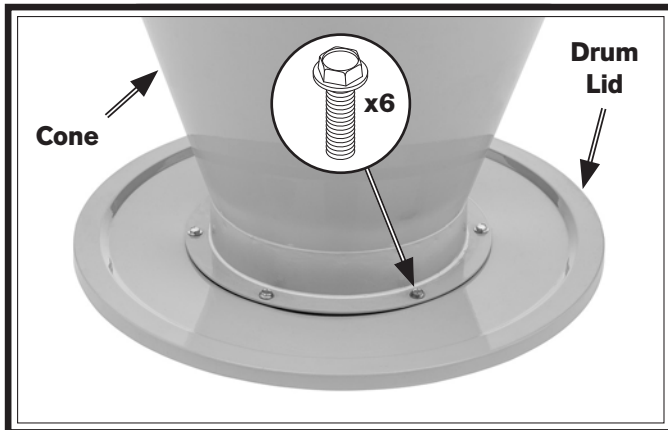

Figure 18. Drum lid attached to cone.
11. Attach drum lid to bottom of cone with (6) $\frac{5}{16}$ "-18 x $\frac{1}{2}$ " flange bolts (see **Figure 18**).